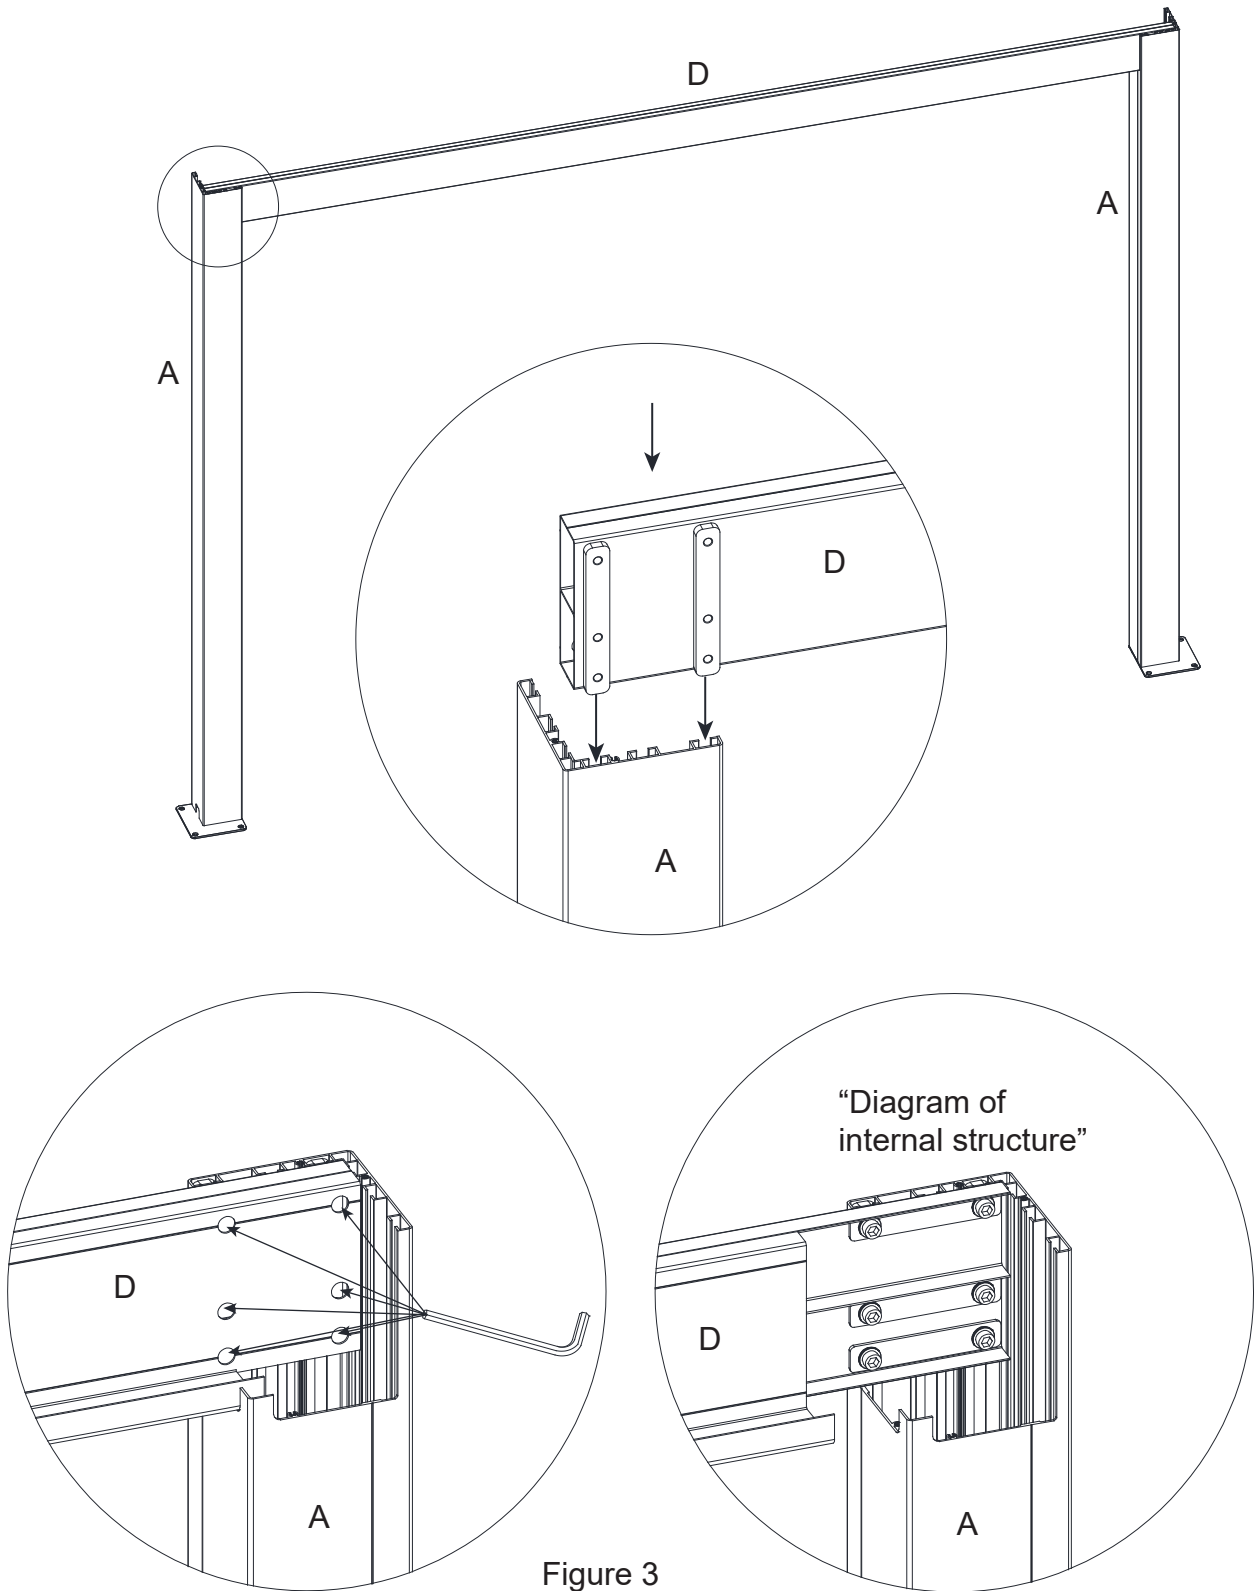

Figure 3
3. Slide the ends of the Front Lintel (D) into the groove in the Post (A) and tighten Diagram of internal structure the bolts in the Front Lintel (D) with the Wrench. See Figure 3.